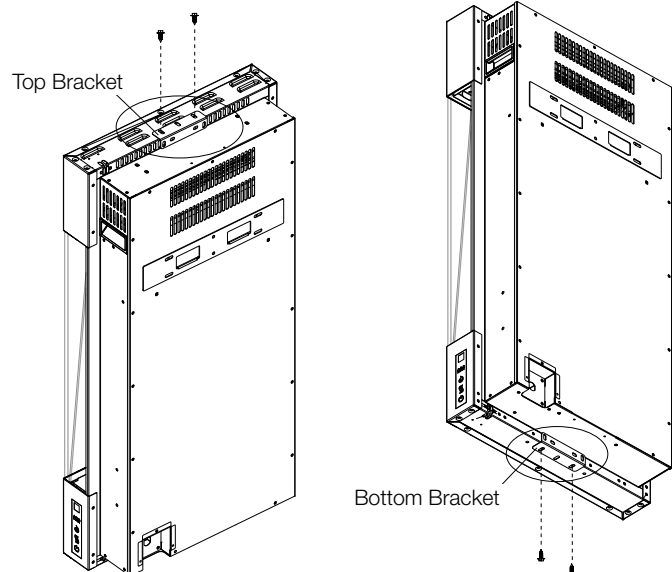

Fig. 1
3. Remove the top and bottom brackets (**Fig. 1**).
5. Re-insert the appliance into the recess, and then secure it to the top and bottom brackets (**Fig. 1**).